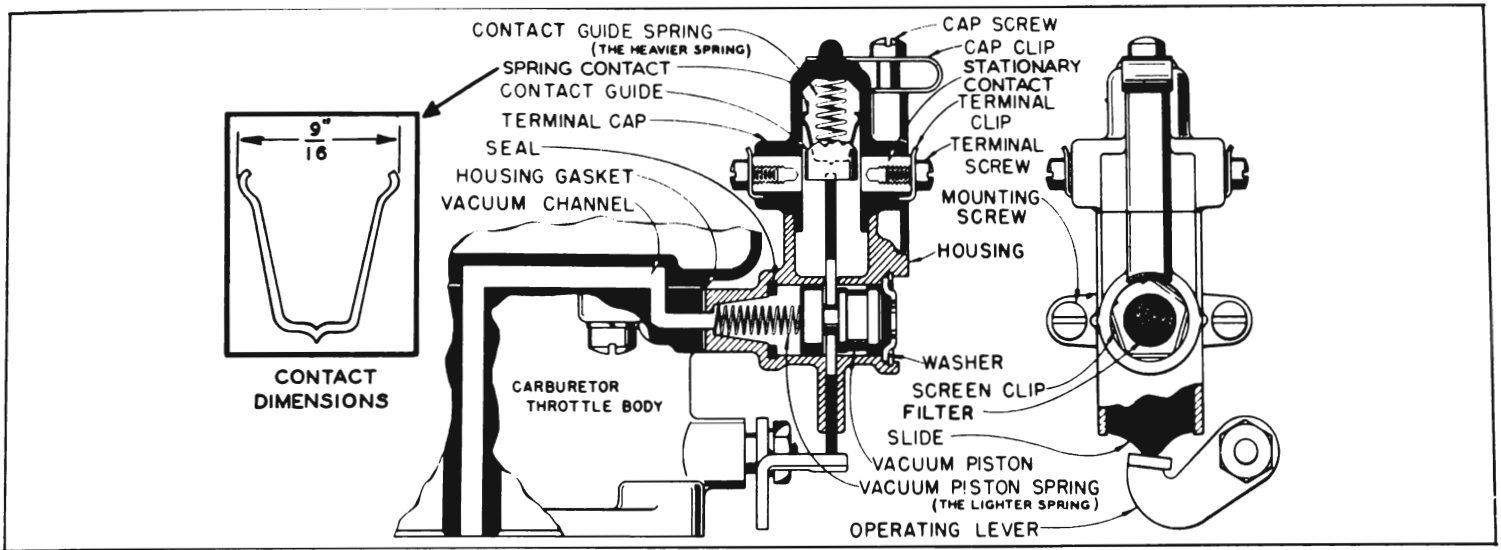

Figure 10-29—Stromberg Accelerator Vacuum Switch—Engine Not Running
The switch housing is provided with a horizontal cylinder barrel to which vacuum from the engine manifold is applied at one end by means of cored and drilled passages in the carburetor bodies. This end of the barrel is provided with a washer which forms a seal to prevent leaks when a piston opposed by a light spring is drawn against it by vacuum. The opposite end of the barrel is vented to outside air through a fine mesh screen and felt filter held in place by a washer and clip. A flat slide, actuated by an operating lever on the throttle shaft, moves in a confined slot in the housing and in a plane perpendicular to the axis of the cylinder barrel. This slide engages a cylindrical bakelite contact guide, the upward movement of which is opposed by a heavy contact guide spring. The contact guide carries a thin U-shaped spring contact which moves up and down within a bakelite terminal cap to engage stationary contacts for opening and closing the cranking motor control circuit. The terminal cap is held in place by a cap screw and cap clip. See figure 10-29.
Figure 10-29 shows the accelerator vacuum switch with engine not running. The throttle is closed and the switch operating lever holds the slide in the upper position, thereby holding the U-shaped spring contact away from the stationary contacts in the terminal cap.
The switch may be readily disassembled by referring to figure 10-29. Wash all metal parts in Bendix Metalclene, or equivalent, and wipe dry. Do not soak bakelite parts in cleaning solution, but wipe with a clean cloth.
1. Make certain that the contact guide spring and the vacuum piston spring are installed in their proper positions. The contact guide spring may be identified as the heavier of the two springs. See figure 10-29.
3. Use care in handling the U-shaped contact spring to avoid altering the dimension of the open end. The open end measures $\frac{9}{16}$ " from outside to outside of the curved ends of spring. See figure 10-29.